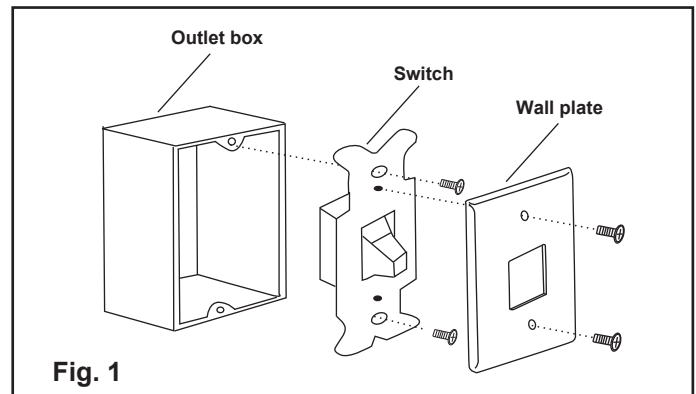

Fig. 1
- Turn power OFF at fuse box or circuit breaker and remove the existing wall plate and switch, do not remove wires before noting their position. (Figure 1).
1. Turn power OFF at fuse box or circuit breaker and remove the existing wall plate and switch, do not remove wires before noting their position. (Figure 1).